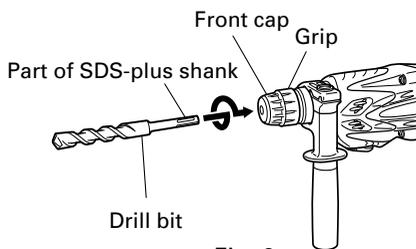

Fig. 2
6. Mounting the drill bit (Fig. 2)
- (1) Clean the shank portion of the drill bit.
- (2) Insert the drill bit in a twisting manner into the tool holder until it latches itself (Fig. 2).
- (3) Check the latching by pulling on the drill bit.